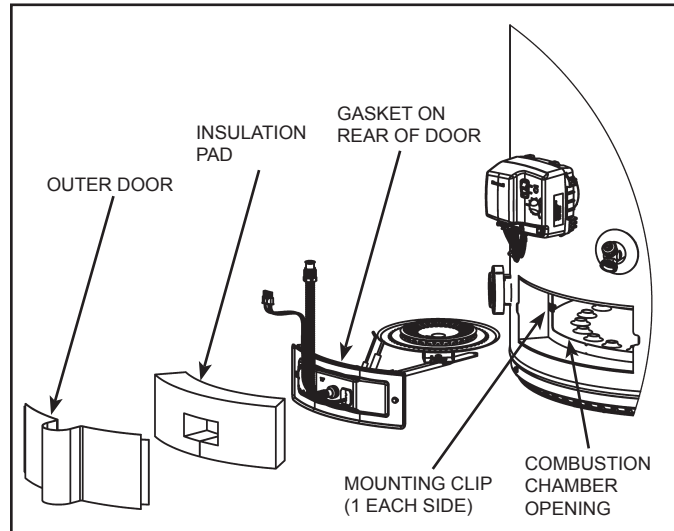
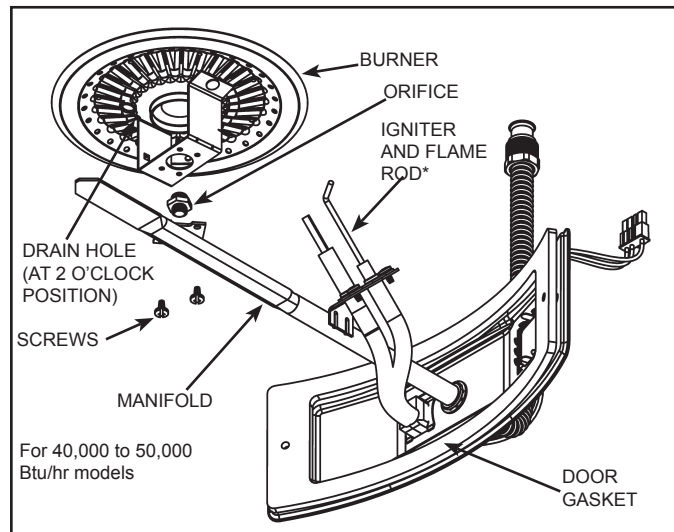
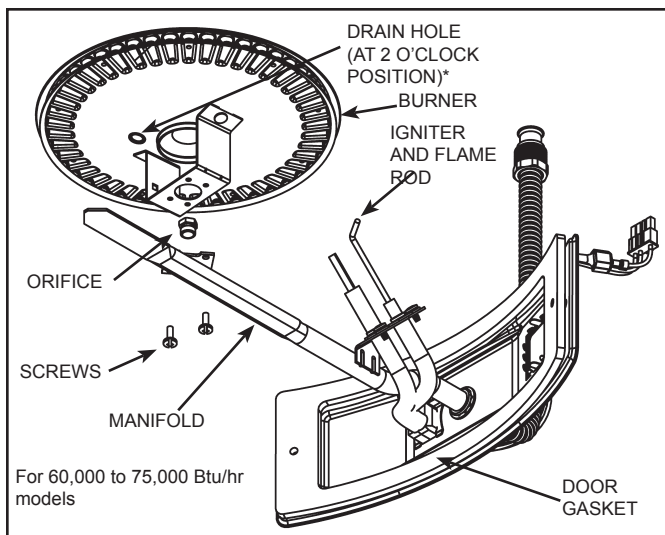

Figure 17. Burner Chamber Compartment Doors
Figure 18. Burner/Igniter Assemblies for 40,000 to 50,000 Btu Models
Figure 19. Burner and Igniter Assemblies for 60,000 to 75,000 Btu Models
9. Remove inner door/manifold/burner assembly by grasping the manifold, rotating it to the left to clear the igniter and flame sensor and pulling back. Care should be taken when inner door and burner assembly passes through jacket opening that it does not damage any of the electrical wiring. See **Figure 17** (page 14).
1. Burner may be hot. Wait until burner has cooled off. After noting the position of the condensation drain hole on the top of the burner, turn the inner door/manifold/burner assembly upside down. Using a Phillips head screwdriver, remove and retain the 2 screws attaching the burner to the manifold pipe. See **Figure 18** (page 8) and **Figure 19** (page 15).
Care MUST be taken to ensure the burner is installed correctly on the inner door/manifold assembly. Position the new burner upside down with the orientation of the burner's condensation drain as shown in illustration. See **Figure 18** (page 8) and **Figure 19** (page 15).
1. Align the screw holes on the inner door/manifold assembly. Using the two screws removed in step 1 of Removing Burner, install the new burner to the inner door/ manifold assembly (rotate the assembly to visually check the top portion of the burner assembly and confirm the orientation of the condensation drain hole. See **Figure 18** (page 8) and the note that follows it.
1. Burner may be hot. Wait until burner has cooled off. After noting the position of the condensation drain hole on the top of the burner, turn the inner door/manifold/burner assembly upside-down. Using a Phillips head screwdriver, remove and retain the 2 screws attaching the burner to the manifold pipe. See **Figure 18** (page 8) and **Figure 19** (page 15).
Note: The burner orifices have different threads dependent upon the gas type. Orifices for natural gas have right-hand threads, orifices for LP have left-hand threads. See **Figure 18** (page 8) and **Figure 19** (page 15).
Note: The burner orifices have different threads dependent upon the gas type. right-handed threads for natural gas (turn clockwise to install) and left-handed threads for propane gas (turn counter-clockwise to install). See **Figure 18** (page 8) and **Figure 19** (page 15).
3. Align the screw holes on the inner door/manifold assembly. Using the two screws removed in step 1 above, installed the new burner to the inner door/ manifold assembly (rotate the assembly to visually check the top portion of the burner assembly and confirm the orientation of the condensation drain hole as shown in the illustration. See **Figure 18** (page 8) and **Figure 19** (page 15).
1. Locate the gasket that is on the rear of the burner door assembly. See **Figure 17** (page 14), **Figure 18** (page 8), and **Figure 19** (page 15).
3. Using the 3/4" scraper, clean around the combustion chamber opening to ensure no old gasket material is stuck on the combustion chamber. See **Figure 17** (page 14). Use the flashlight to clearly illuminate this area. Take care not to damage the mounting clips located on each side of the opening.